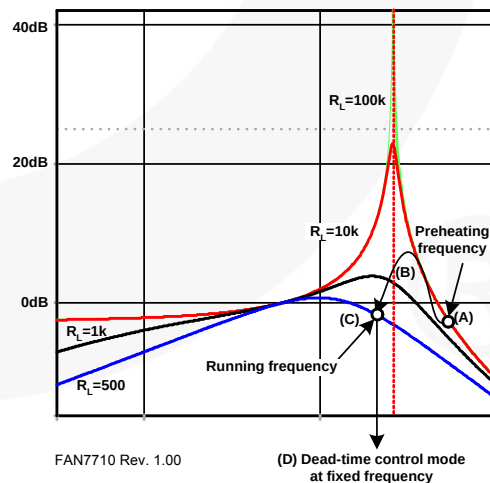

Figure 26. LCC Transfer Function in Terms of Lamp Impedance
The transfer function of LCC resonant tank is heavily dependent on the lamp impedance, R_L , as illustrated in Figure 26. The oscillator in FAN7710V generates effective driving frequencies to assist lamp ignition and improve lamp life longevity. Accordingly, the oscillation frequency is changed in following sequence:
Before the lamp is ignited, the lamp impedance is very high. Once the lamp is turned on, the lamp impedance significantly decreases. Since the resonant peak is very high due to the high-resistance of the lamp at the instant of turning on the lamp, the lamp must be driven at higher frequency than the resonant frequency, shown as (A) in Figure 26. In this mode, the current supplied by the inverter mainly flows through C_P . C_P connects both filaments and makes the current path to ground. As a
After the warm-up, the FAN7710V decreases the frequency, shown as (B) of Figure 26. This action increases the voltage of the lamp and helps the fluorescent lamp ignite. The ignition frequency is described as a function of CPH voltage, as follows:
Finally, the lamp is driven at a fixed frequency by an external resistor, R_T , shown as (C) in Figure 26. If V_{DD} is higher than $V_{DDTH(ST+)}$ and UVLO is released, the voltage of the RT pin is regulated to 4V. This voltage adjusts the oscillator's control current according to the resistance of R_T . Because this current and an internal capacitor set the oscillation frequency, the FAN7710V does not need any external capacitors.
Even in the active ZVS mode, shown as (D) in Figure 26, the oscillation frequency is not changed. The dead time is varied according to the resonant tank characteristic.